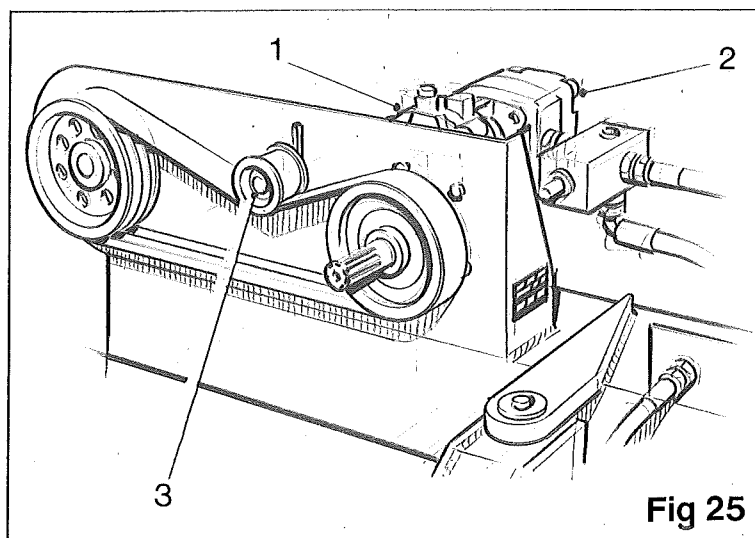

Fig 25
The main drive is taken from the tractor PTO to a centrally mounted gearbox (item 1, fig 25) by a universal coupling shaft. (This shaft should be checked occasionally to ensure that the inner and outer tubes can slide freely. Binding up the tubes will cause premature failure of the gearbox input bearings). A hydraulic pump (item 2, fig 25) driven from the 1:3 ratio gearbox (item 1, fig 25) provides the necessary hydraulic oil pressure to drive the roller cleaner unit (see Roller Cleaner Hydraulic System). The drive is then taken from the gearbox input shaft by two triple pulleys and triple vee belt to the main drive shaft. Besides providing a drive, vee belts also act as a slip clutch. It is therefore important that the belt tension is sufficient to drive normally without slip, but not so great that the belt cannot slip when the drive is obstructed. To adjust the vee belt, loosen the retaining bolt (item 3, fig 25). Once the correct tension has been achieved, resecure by tightening the bolt.